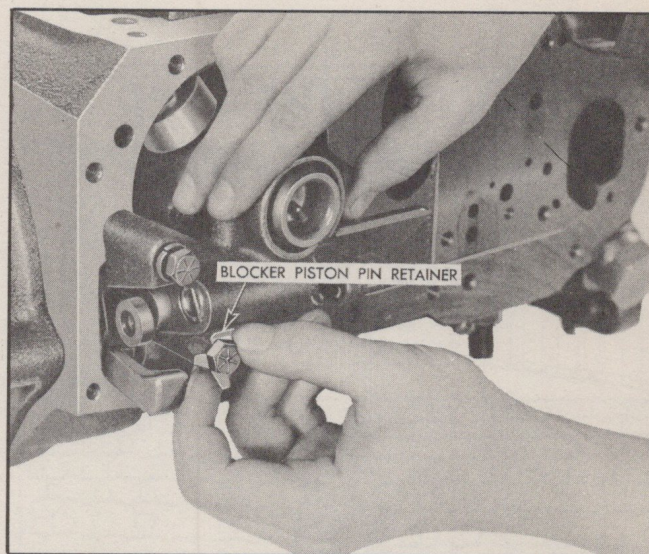

Fig. 42 Blocker Piston Pin Retainer Installed
4. When installing parking brake bracket, position parking blocker piston pin retainer with the large tang over the end of the pin so that the pin cannot slide out (Fig. 42).